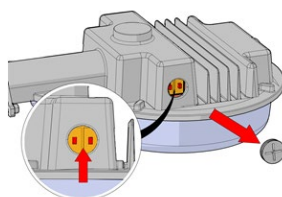

Figure 2
1. If a different CCT or wattage is required, remove the clear knockout. Slide each switch to the desired setting and replace the conduit plug securely. (figure 2)